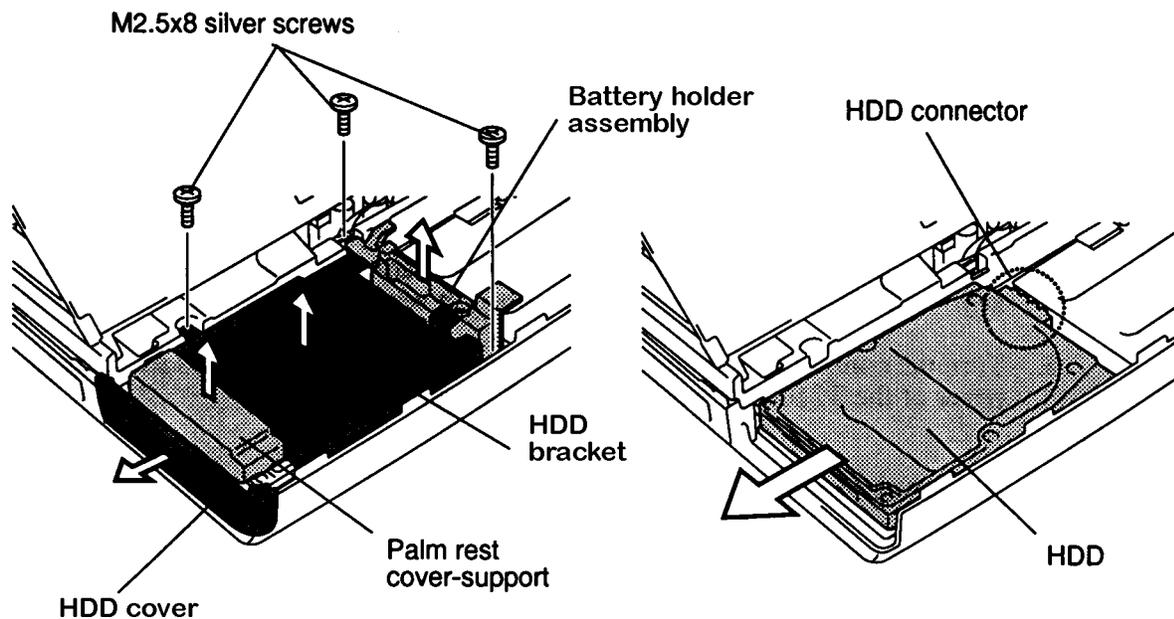

Figure 4-13 Removing the HDD
5. Disconnect the AccuPoint cable from PJ13 on the system board, then remove the palm rest, the HDD cover and the palm rest support (Figure 4-13).
7. Remove the **HDD cover, palm rest cover-support, HDD bracket, and battery holder assembly** (Figure 4-13).
8. Carefully slide the **HDD** to the left to disconnect it from the **HDD connector** (Figure 4-13).
1. Place the **HDD** in the HDD slot and slide the **HDD** to the right. Make sure the HDD connects to the HDD connector on the system board (PJ502) (Figure 4-13).
3. Seat the **battery holder assembly** and secure the assembly and **HDD bracket** with **three M2.5x8 silver screws** (Figure 4-13).
4. Seat the **palm rest cover-support**, and secure the **HDD cover** (Figure 4-13).